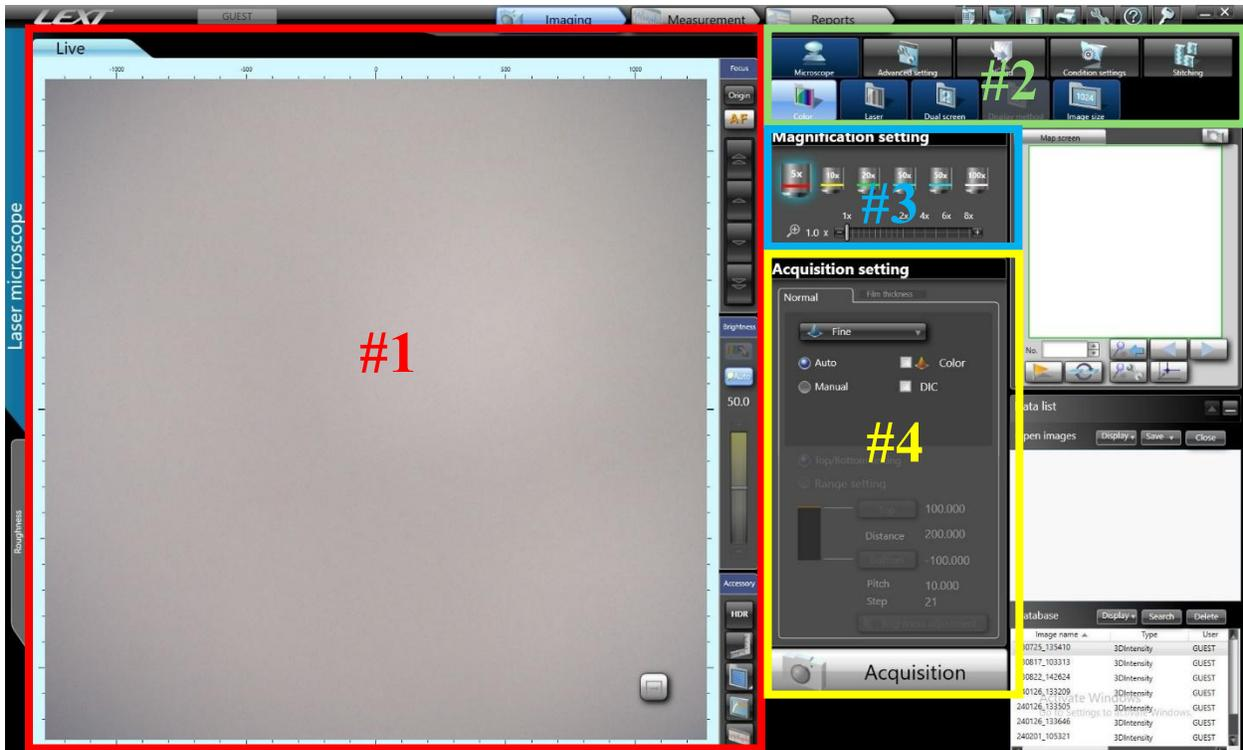

Figure 5. LEXT Software Interface
4. The software interface will display as shown in Figure 5.